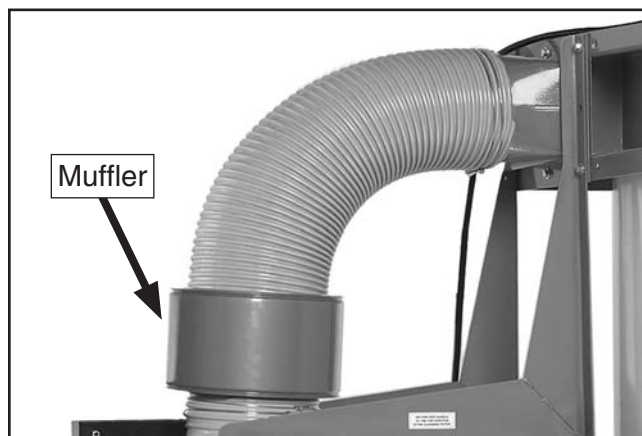

Figure 24. Muffler properly positioned between the two gray flexible hoses (Model G0441).
- b. Attach the 8" x 5" gray flexible hose between the canister adapter and the muffler with two 8" hose clamps, then attach the 8" x 20" gray flexible hose between the muffler and the outlet port with the remaining two 8" hose clamps (see **Figure 24**).